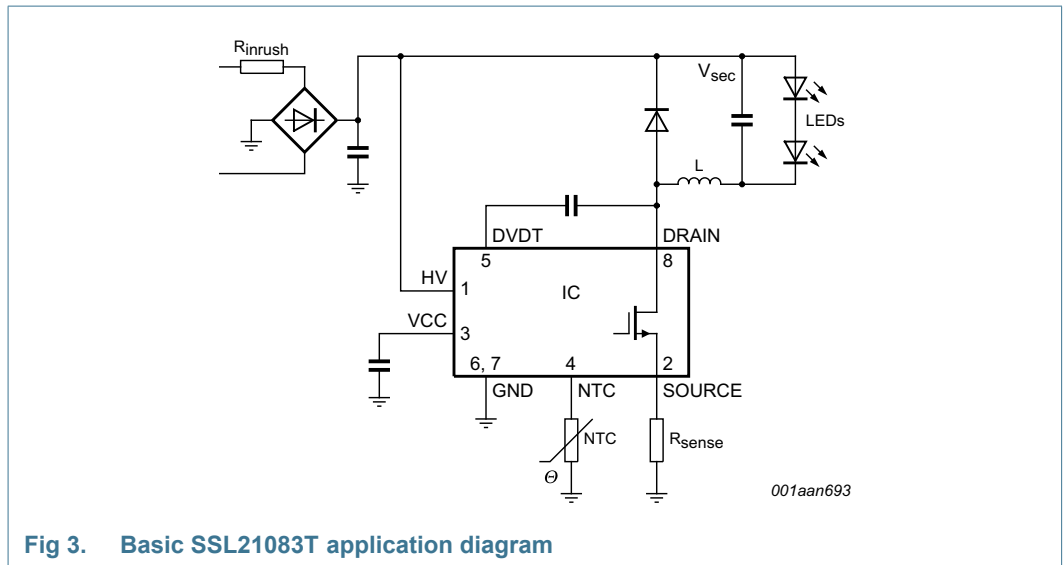
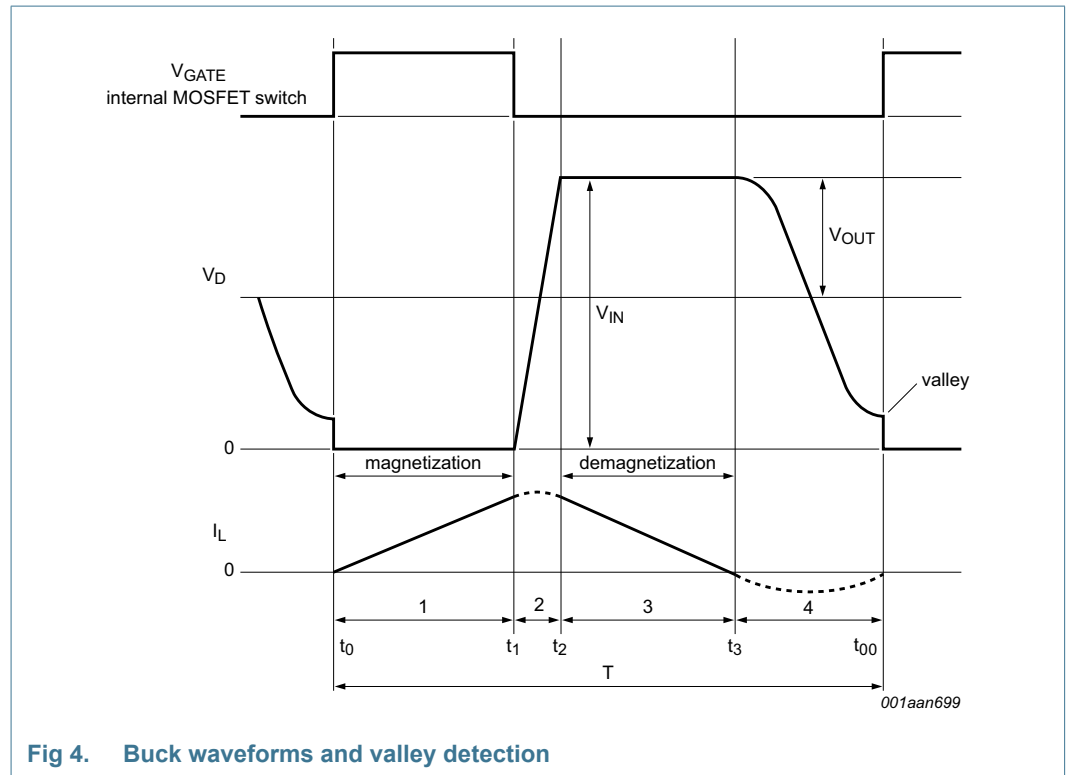

Fig 3. Basic SSL21083T application diagram
Fig 4. Buck waveforms and valley detection
- Low component count LED driver solution (see Figure 3):
The converter in the SSL21083T is a Boundary Conduction Mode (BCM), peak current controlled system. Figure 3 shows the basic application diagram. Figure 4 shows the waveforms. This converter type operates at the boundary between continuous and discontinuous mode. Energy is stored in inductor L each period that the switch is on. The inductor current  $I_L$  is zero when the internal MOSFET switch is switched on. Thereafter, the amplitude of the current build-up in L is proportional to  $V_{IN} - V_{OUT}$  and the time that the internal MOSFET switch is on. When the internal MOSFET switch is switched off, the current continues to flow through the freewheel diode and the output capacitor. The current then falls at a rate proportional to the value of  $V_{OUT}$ . The LED current  $I_{LED}$  is almost equal to half the peak switch current. As soon as the inductor current  $I_L$  is zero, a new cycle is started.
A new cycle is started when the primary switch is switched on (see Figure 4). Following time  $t_1$ , when the peak current is detected on the SOURCE pin, the switch is turned off and the secondary stroke starts (3). When the secondary stroke is complete and the coil current at  $t_3$  equals zero, the drain voltage starts to oscillate around the  $V_{IN} - V_{OUT}$  level. The amplitude equals  $V_{OUT}$ . A special feature, called valley detection is an integrated part of the SSL21083T circuitry. Dedicated built-in circuitry connected to the DRAIN pin, senses when the voltage on the drain of the switch has reached its lowest value. The next cycle is then started and as a result the capacitive switching losses are reduced.